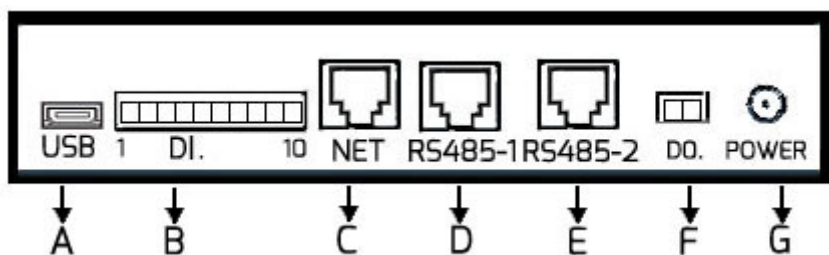
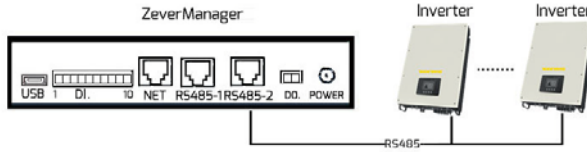
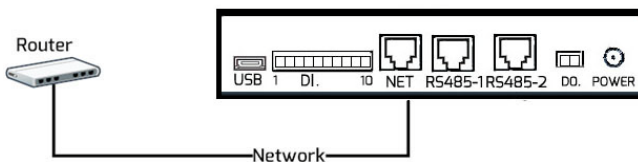
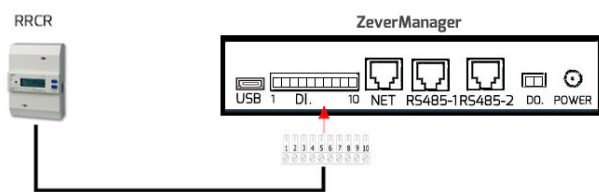

Fig. 5-1: Connection area
Fig. 5-2: Connect with the inverter
Fig. 5-5: ZeverManager linked network
Fig. 5-8: Connect to RRCCR
Fig. 5-1 shows the connection interfaces of the ZeverManager to other devices.
The function of each interface in Fig. 5-1 is shown in Table 5-2.
Step 1: For PV Plants with more than one inverter, connect each inverter in a daisy chain configuration with an RS485 cable shown in Fig. 5-2.
Step 2: Connect the inverter closest to the RS485 port of the ZeverManager (port E in Fig. 5-1) as shown in Fig. 5-2.
1. The RS485-2 port between the ZeverManager and the inverter (port E in Fig. 5-1) uses the RJ45 socket. Please make sure to use the correct port.
The ZeveManager is connected to the network by simply connecting the network cable from the router to the network port of ZeveManager (port C in Fig. 5-1), as shown in Fig. 5-5.
The RRCCR is connected to the DI. port of the ZeverManager (port C in Fig. 5-1), as shown in Fig. 5-8.
Connect the power adapter from the box to the Power Port (port G in Fig. 5-1). Plug the other end into a power outlet, check that the green LED (Power) illuminates as shown in Fig. 3-1.